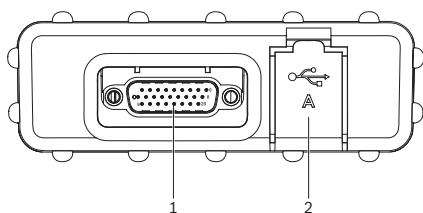

Fig. 2: MTS 6534/6535
1. Connect the TS1 Trigger switch to the USB port on the MTS 6534/6535 (fig. 2, item 2).